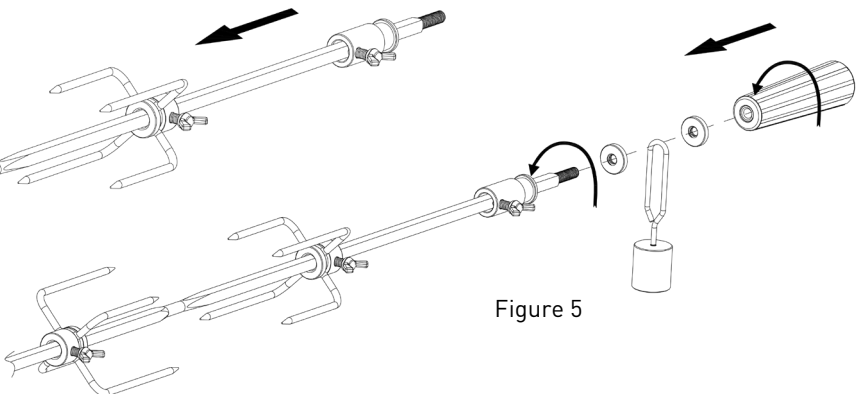

Figure 5
4. Fix the meat forks in the middle of the skewer with the wing nuts. There should be as little imbalance as possible (see Fig. 5).